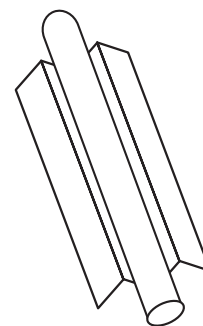

Figure 1.
2. Fold a piece of cardboard or thin metal sheet accordion-style (see Figure 1). Place one folded sheet on each balance as a test tube holder to prevent the tube from rolling off the balance.